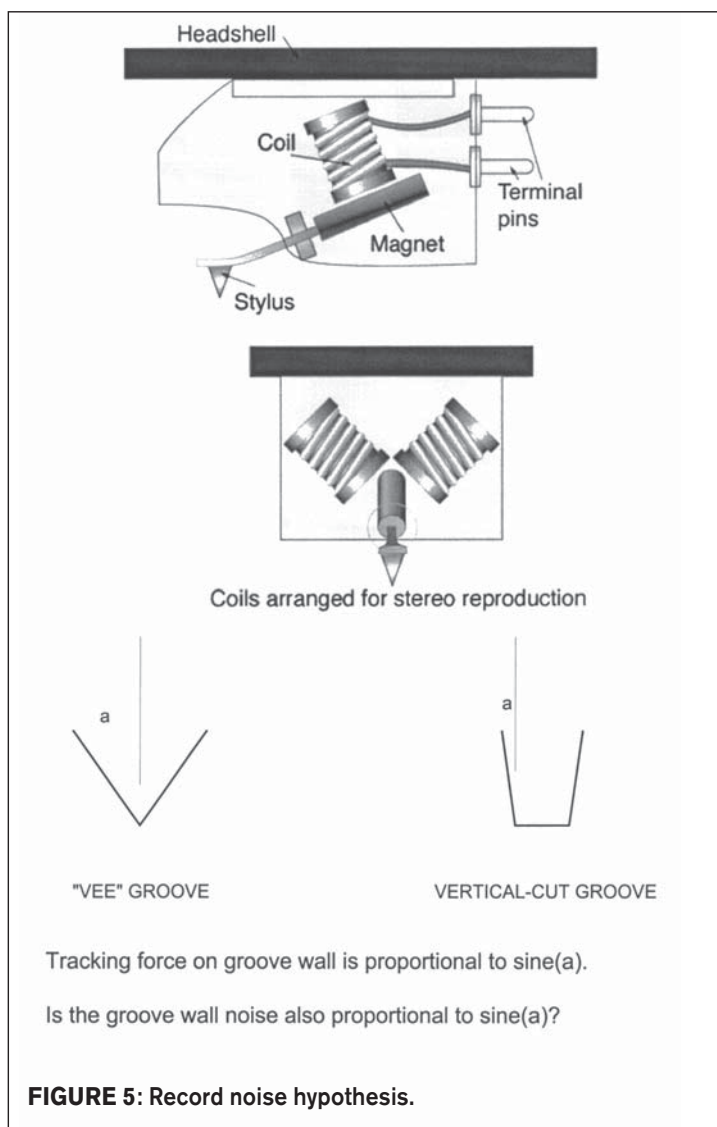

FIGURE 5: Record noise hypothesis.
Because the equations for the cartridge outputs are the same for both the lateral- and vertical-cut cases, a mathematical analysis will not be helpful. Instead, we looked at the "mechanics" of the two cases to arrive at a hypothesis that may explain why LR blending does not provide any benefit for vertical-cut records. This is illustrated in **Fig. 5**.
3. The "Headshell" graphics (Mag_cartridge.png) in **Fig. 5** was borrowed from the Wikipedia webpage on Stereo Pickup Cartridges.